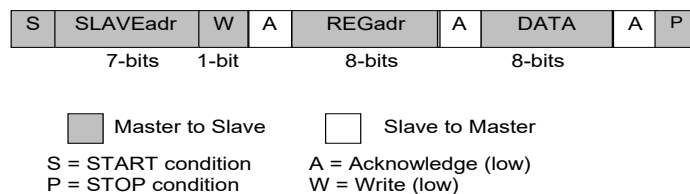
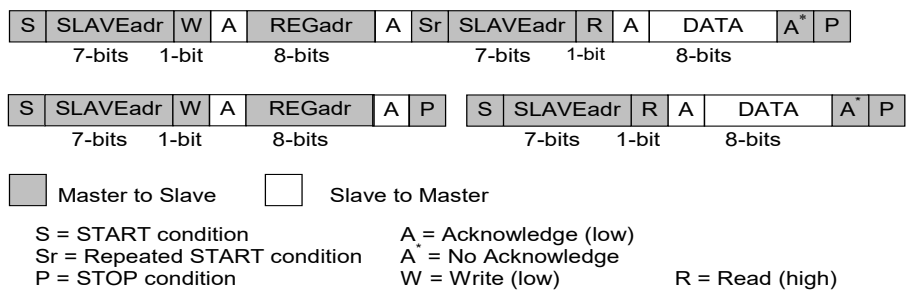

Figure 10. I2C Byte Write (SDA Line)
Figure 11. I2C Byte Read (SDA Line) Examples
The I2C bus is monitored for a valid slave address whenever the interface is enabled. It responds immediately when it receives its own slave address. The acknowledge is done by pulling the SDA line low during the following clock cycle (white blocks marked with A in Figure 10 and Figure 11).
The protocol for a register write from master to slave consists of a START condition, a slave address with read/write bit, and the eight-bit register address followed by eight bits of data, terminated by a STOP condition. DA9141 responds to all bytes with acknowledge (A), see Figure 10.
When the host reads data from a register it first has to write to DA9141 with the target register address and then read from DA9141 with a repeated START, or alternatively a second START, condition. After receiving the data, the host sends no acknowledge (A\*) and terminates the transmission with a STOP condition, see Figure 11.